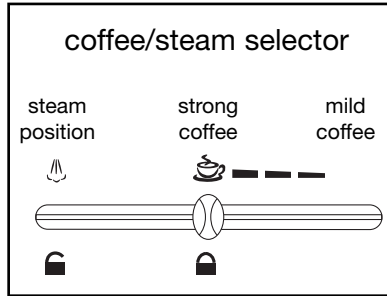

Fig. 8
3. Move the coffee/steam selector to the steam symbol (fig. 8).
8. Move the coffee/steam selector to the cup symbol (fig. 8).